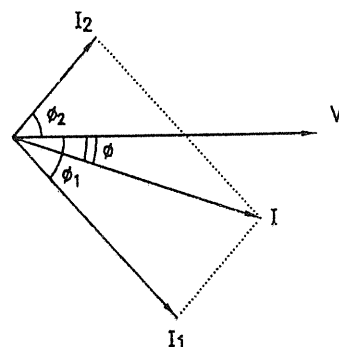

FIG. 2.63(b) : PHASOR DIAGRAM OF CIRCUIT SHOWN IN FIG. 2.63(a)
- Due to R - L combination in branch A, current I_1 will lag behind the applied voltage V by an angle ϕ_1 . It is shown in Fig. 2.63(b).